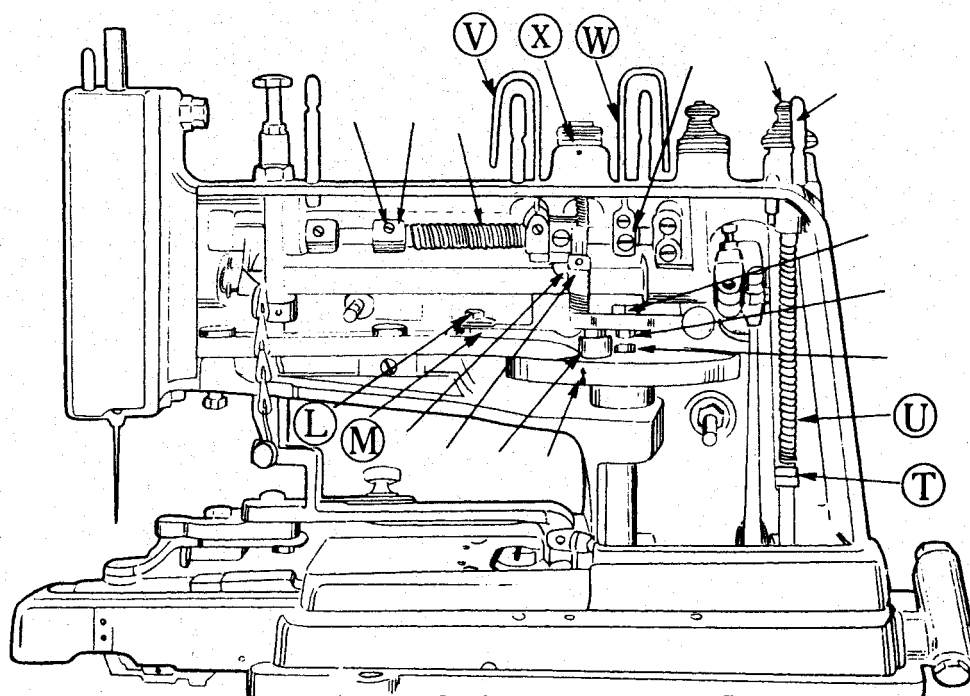

Fig. 9
Moreover, needle must vibrate an equal distance from the center of the looper shaft. To check, remove feed plate or button holder, needle plate and looper. Insert accurately fitting pin or drill No. 20 into looper hole in shaft, loosen hexagon head screw (L—fig. 9) and move lever (M) until needle on both vibrations just touches both sides of pin or drill. Tighten screw (L).
The amount of opening of the automatic tension is controlled by the adjusting nuts (T, fig. 9). Loosen them and turn rod (U, fig. 9) until the desired play is obtained. There should be about  $1/64''$  clearance between the upper end of the rod and the tension release washer when the automatic tension is closed without any thread between the tension discs. Securely tighten nuts upon completion of adjustment.
The thread pull-offs (V and W, fig. 9) should move back to the left of the thread post about  $1/2''$  when the button clamp is in its highest position. To adjust loosen set screws which lock these parts to the top shaft inside the machine arm and move forward or back as set forth above.
The thread nipper (X, fig. 9) should hold the thread tightly while the machine is in stopped position. It is adjusted by moving the collar downward for tighter thread nipping or upward for less gripping. Be sure to tighten set screw on collar.